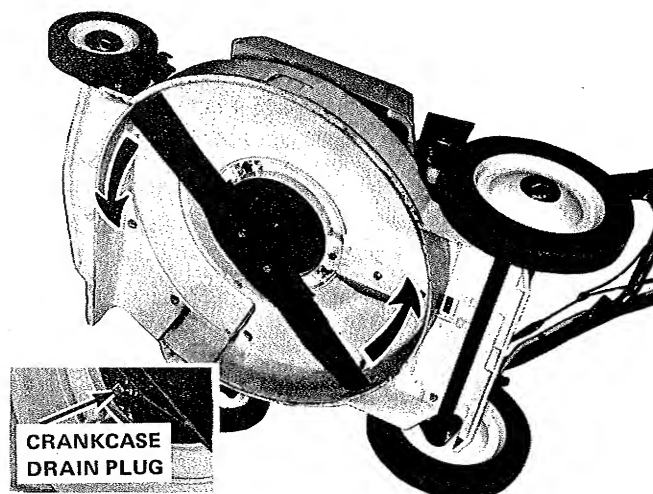

FIGURE 34
1. Change the crankcase oil and re-oil the air cleaner foam element every 25 hours of operation, more often under extremely dusty or dirty conditions. Oil should be drained when engine is warm. Refill with a good MS SAE 30 oil. (See Figure 34 for location of drain plug.)